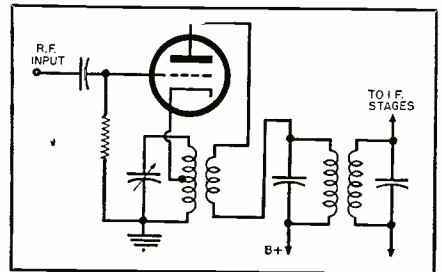

Fig. 2. The converter stage shown here is the equivalent vacuum-tube circuit of the transistor converter in Fig. 3.
There are two basic ways in which the moving coil can move. These are illustrated in Fig. 2. In Fig. 2A the coil is rotated in the magnetic field in such
Fig. 2. Basic principles of moving coil pickups. At (A) the coil rocks about an axis due to the movement of the stylus. At (B) the whole coil moves as indicated.
The foregoing oscillator arrangement is a fairly common one. Its equivalent vacuum-tube circuit is shown in Fig. 2. With the incoming signal and the local oscillator voltage both being applied to the converter transistor, the appropriate i.f. signal is formed and then fed to  $T_1$ .
Fig. 2. The transistorized d.c. amplifier is mounted on the transparent polystyrene plate secured to back of the microammeter. Tuner is on shelf-plate to the right.